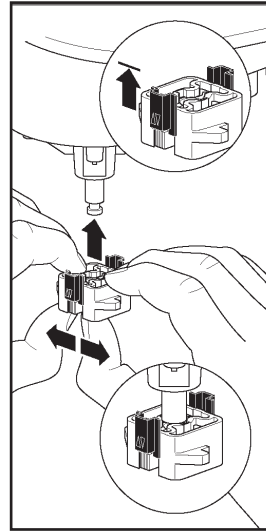

Fig. 1
2. Attach Valve Coupling (D) to Actuator Plunger (H). This is done by pushing the bottom of the coupling apart with your thumbs while pressing it on to the actuator plunger. (See Figure 1).
3. Slide the Bracket (E) over the Valve Coupling and the 4 standoffs on the actuator base.
4. Attach the Bracket to the Actuator (A) using 4 Screws (B).
5. Attach Stroke Indicators (G) above and below the valve coupling.
7. Use the U-bolt (F) and secure the valve into the bracket, tighten using a 10mm wrench. (U-bolt will fit into the groove in the collar, or the valve neck in the case of UNV-003).
8. Lower plunger (H) using manual override until stem adaptor (I) meets valve coupling. When connected, the valve stem adaptor will be captured by the valve coupling.
9. Slide the coupling lock (C) down in to its locked position.
10. Move Stroke Indicators (G) so that they are directly above and below the valve coupling. They will be automatically repositioned to the maximum stroke when power is applied to the actuator.